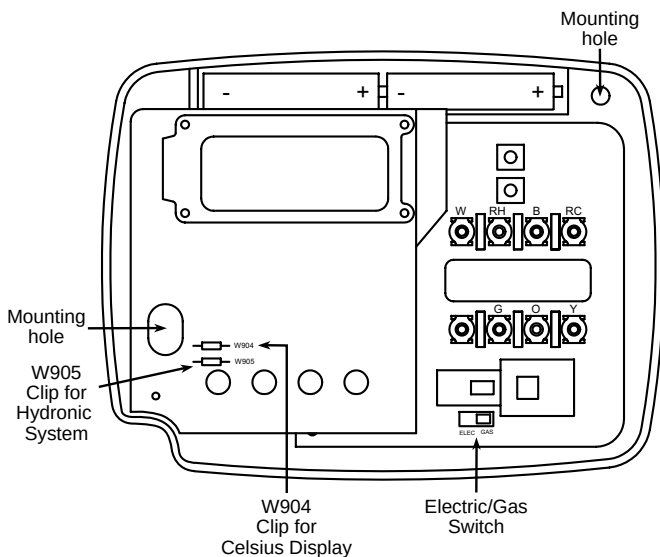

Figure 1. Thermostat base
This thermostat is configured from the factory to operate a heat/cool, fossil fuel (gas, oil, etc.), forced air system. It is configured correctly for any system that DOES NOT require the thermostat to energize the fan on a call for heat. If your system is an electric or heat-pump system that REQUIRES the thermostat to turn on the fan on a call for heat, locate the **GAS/ELECTRIC** switch (see fig. 1) and switch it to the **ELECTRIC** position. This will allow the thermostat to energize the fan immediately on a call for heat. If you are unsure if the heating/cooling system requires the thermostat to control the fan, contact a qualified heating and air conditioning service person.
5. Fasten base loosely to wall, as shown in fig. 1, using two mounting screws. Adjust until level, and then tighten screws. (Leveling is for appearance only and will not affect thermostat operation.) If you are using existing mounting holes, or if holes drilled are too large and do not allow you to tighten base snugly, use plastic screw anchors to secure subbase.
This thermostat requires 2 "AAA" alkaline batteries to operate. If **"LO BATTERY"** is displayed, the batteries are low and should be replaced with fresh "AAA" Energizer® alkaline batteries. To replace the batteries, install the batteries along the top of the base (see fig. 1). The batteries must be installed with the positive(+) ends to the right.
- **°F/°C CONVERTIBILITY** — The factory default setting is Fahrenheit. Clipping W904 jumper on the circuit board (see fig. 1) will alter this feature to Celsius temperature setting.